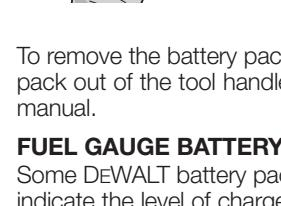

FIG. 5
**To install an accessory,** fully insert the accessory. The accessory is locked into place (Fig. 5).